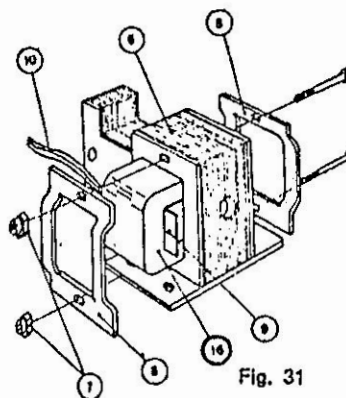

Fig. 31
H. Closing Solenoid (Fig. 31, 32). Slide coil and housing from plunger (Fig. 31) after removing coil wires from terminal block (4) and four mounting bolts (11). (Fig. 32) If breaker is equipped with closing preventer which would be mounted adjacent to the closing solenoid, the coil and housing cannot slide sideways. It is,